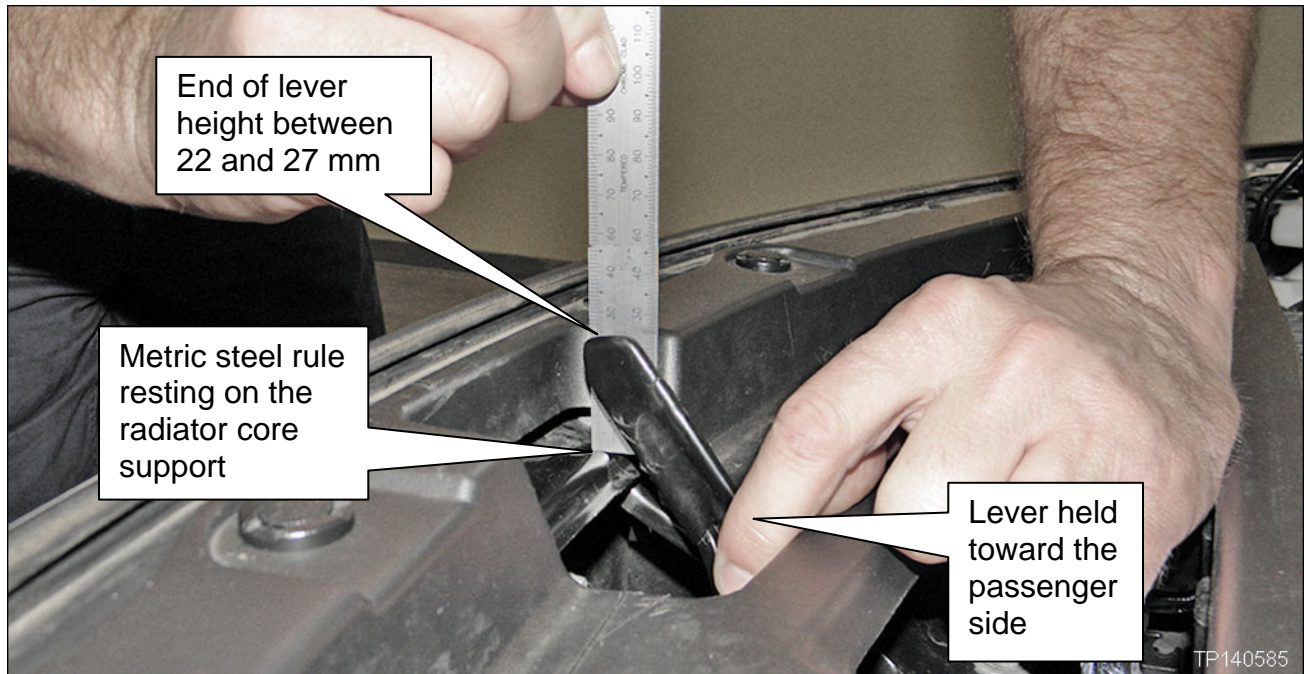

Figure 17
19. Recheck the height of the secondary hood latch lever as follows (see Figure 17):